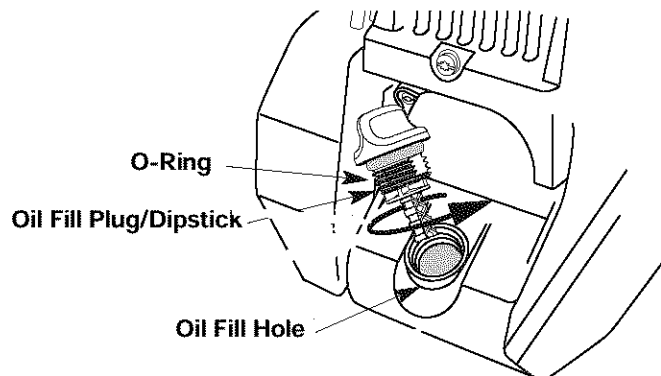

Fig. 26
6. If the level is low, add a small amount of oil to the oil fill hole and recheck (Fig. 26). Repeat until the oil level reaches the top of the dipstick.
NOTE: Make sure the O-ring is in place on the oil fill plug/dipstick when checking and changing the oil (Fig. 26).